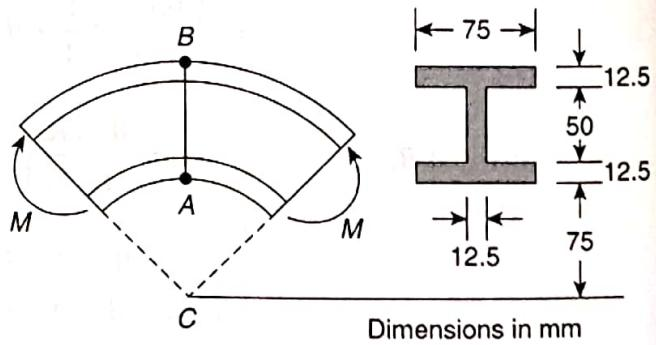

Figure 17.26
4. Three plates are welded to form the curved beam of or, I-section shown in Fig. 17.26. If the moment $M = 1$ kN m, determine the stresses at points A and B and at the centre of the section (Fig. 17.26).